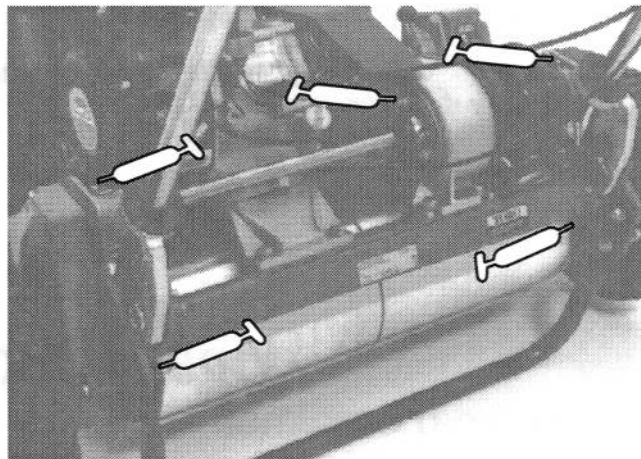
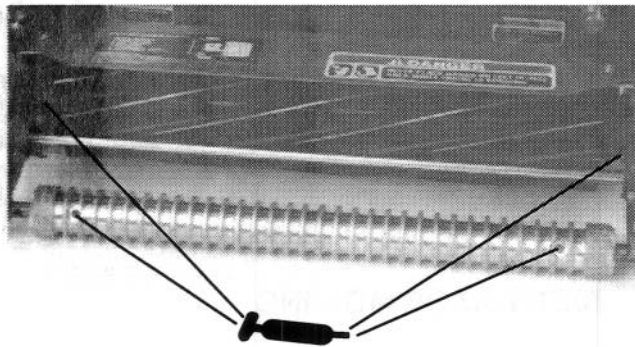
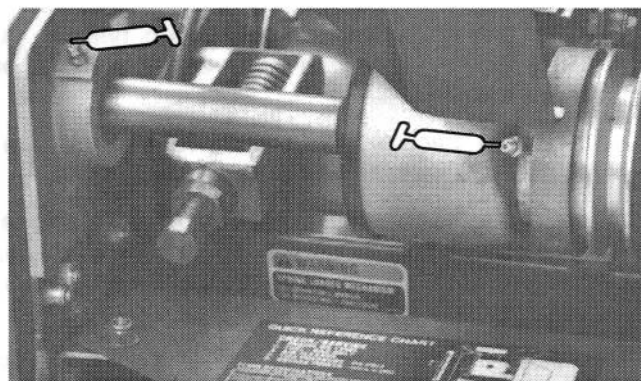
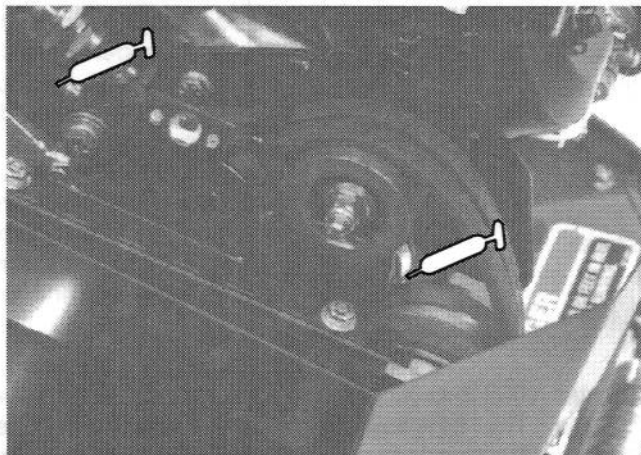

Figure 21
Figure 20
Figure 22
Figure 23
2. The grease fitting locations are: (2) on Front Roller (Fig. 20), (2) on reel bearings (Fig. 20), (2) on Drum Axles (Fig. 21), (3) on Differential (Fig. 21), (2) on Reel Countershaft Bearings (Fig. 22) and (2) on Belt Idler Pivots (Fig. 23).